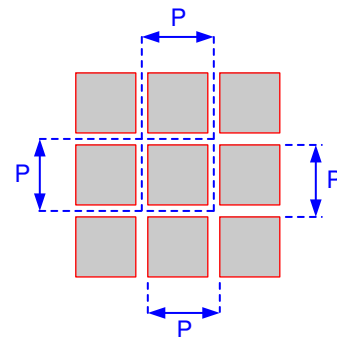

Figure 6-8. Micromirror Array Physical Characteristics
- (1) See Figure 6-8.
(2) The structure and qualities of the border around the active array includes a band of partially functional micromirrors called the *Pond Of Mirrors* (POM). These micromirrors are structurally and/or electrically prevented from tilting toward the bright or “on” state but still require an electrical bias to tilt toward “off.”